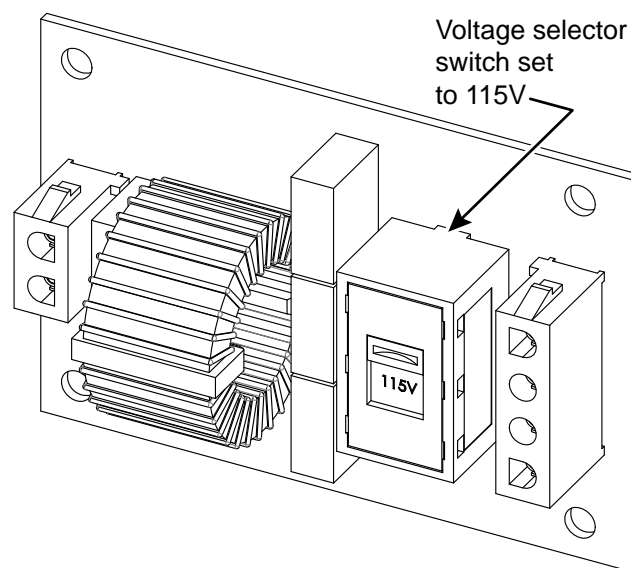

Figure 23. 208/230VAC Voltage Selector Switch
3. Toggle the voltage selector switch from 115V to 230V. Replace the high voltage cover and secure it. See Figure 23.